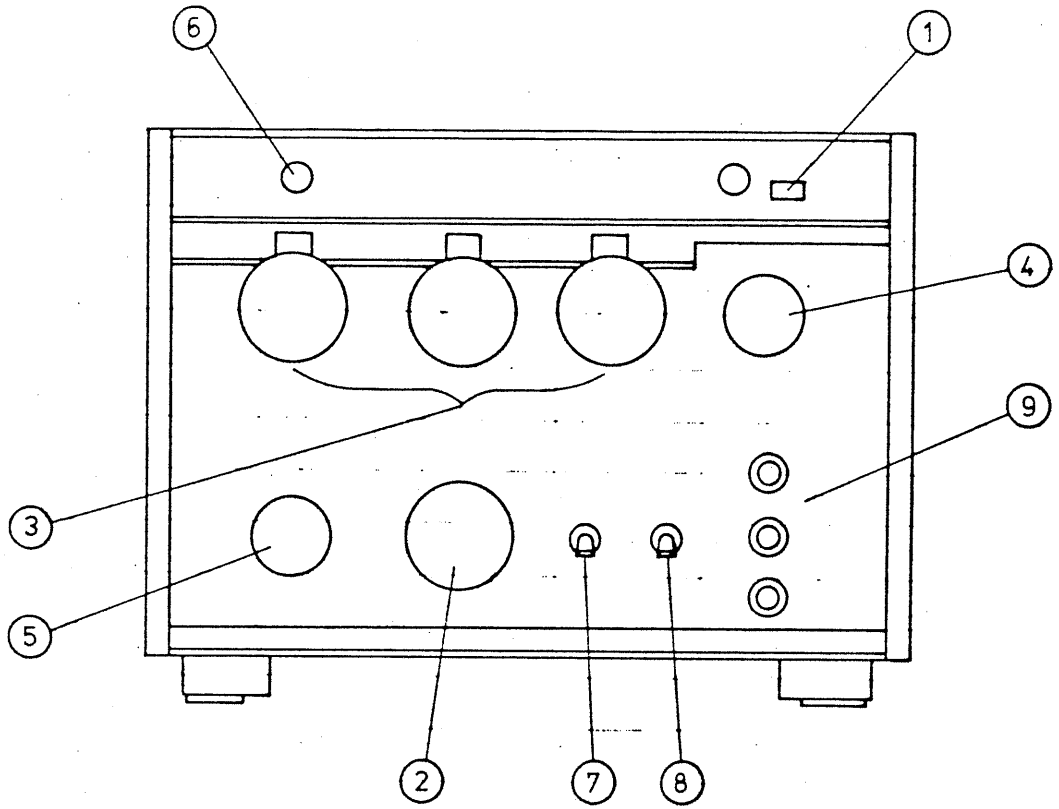

Fig. 3-1
3.1 EXPLANATION OF FRONT AND REAR PANELS (See Figs. 3-1 and 3-2.)